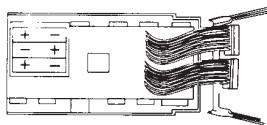

Figure 4
- Insert three AA size batteries into the wallplate as shown in Figure 4, observing the polarity marked on the unit.
- Carefully connect connectors 1 and 2 back to terminal socket. (See Figure 4.)